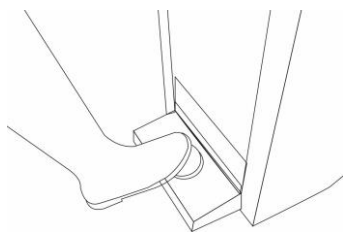

Fig 14
- Put your foot above the pump (Fig.14) and actuate it by compressing and slowly releasing the foot, for several times, until the water comes out of the faucet.